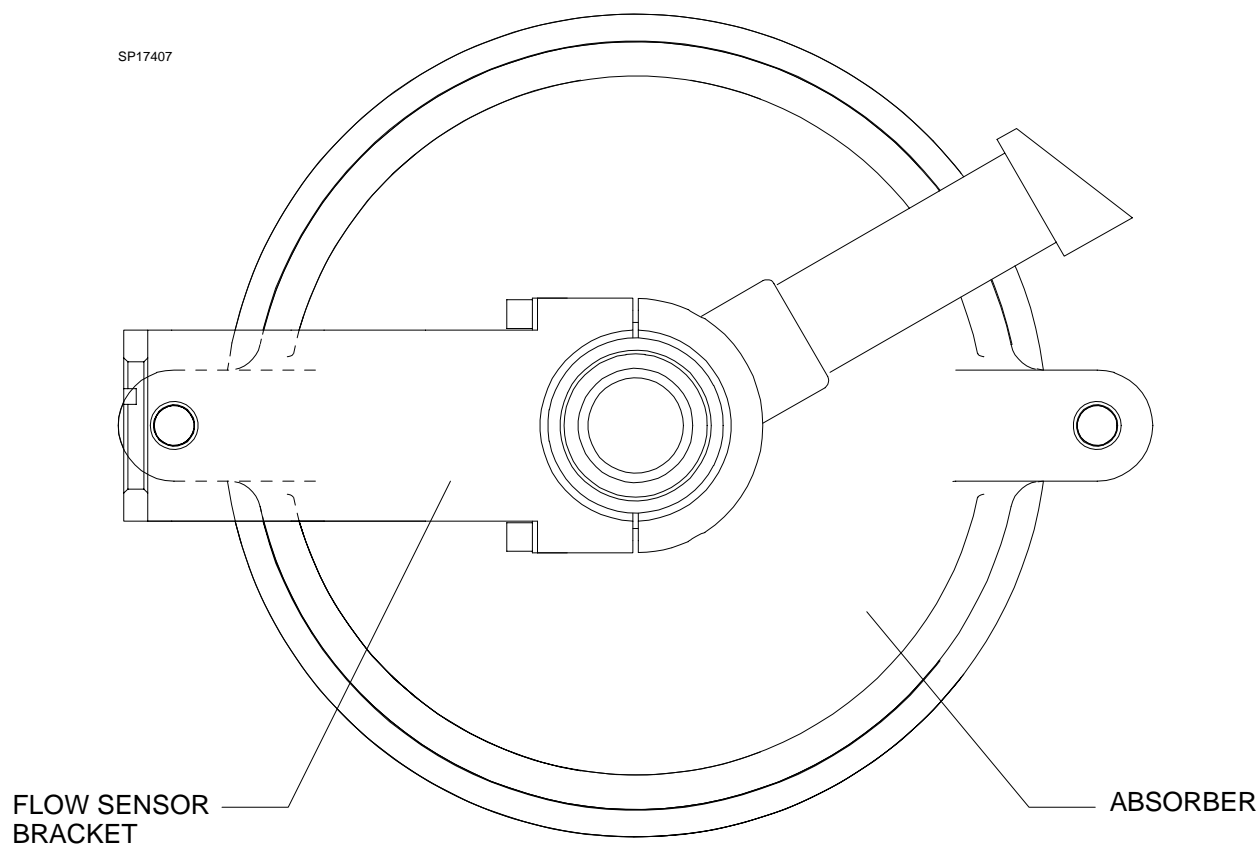

Figure 7. Flow Sensor Bracket Orientation: Top View
2. Install the new flow sensor bracket and clamp on the expiratory valve mount neck, below the threads as shown in Figures 7 and 8.
CAUTION: In order to avoid interference between the connector hose and the bellows assembly, the flow sensor bracket must be oriented as shown in Figure 7.